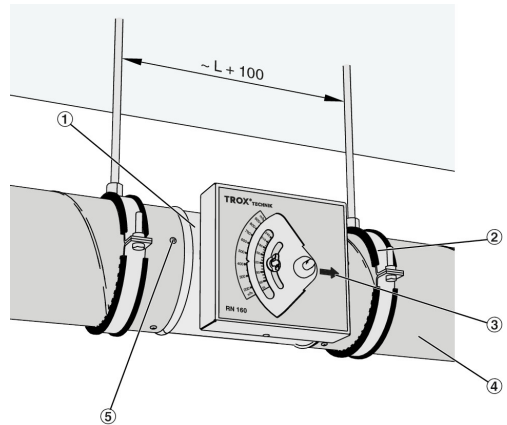

Fig. 17: Installation example
1. ▶ Pre-assemble suspensions (Fig. 17/2) at the installation location, at a distance of approx. $L+100$ mm.
2. ▶ Assemble the duct (Fig. 17/4) and lead it up to the installation location of the controller.
3. ▶ Push the spigot of the CAV controller (Fig. 17/1) into the duct; note the airflow direction marked by the arrow (Fig. 17/3).
4. ▶ Push the duct (Fig. 17/4) onto the other spigot.
6. ▶ Fix the controller to the duct using screws or rivets (Fig. 17/5).